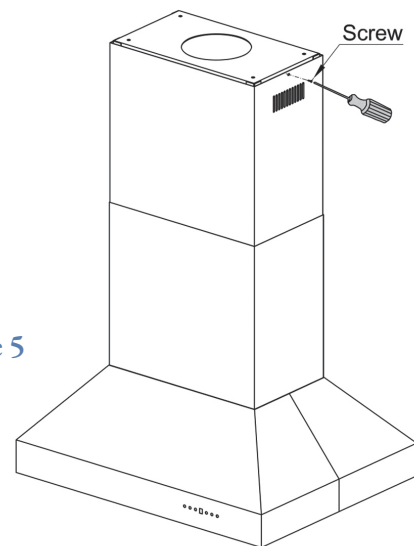

Figure 5
- 9 Slide top chimney piece up over the mounting bracket on the ceiling and secure in place with screws provided. (Figure 5)